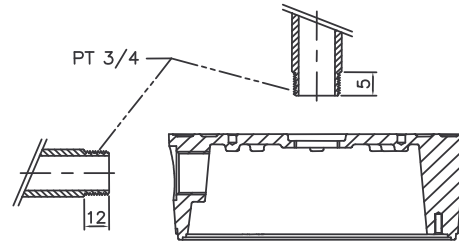

FIG.4
2. When you use pipe, please note the standard size of pipe. (FIG.4)